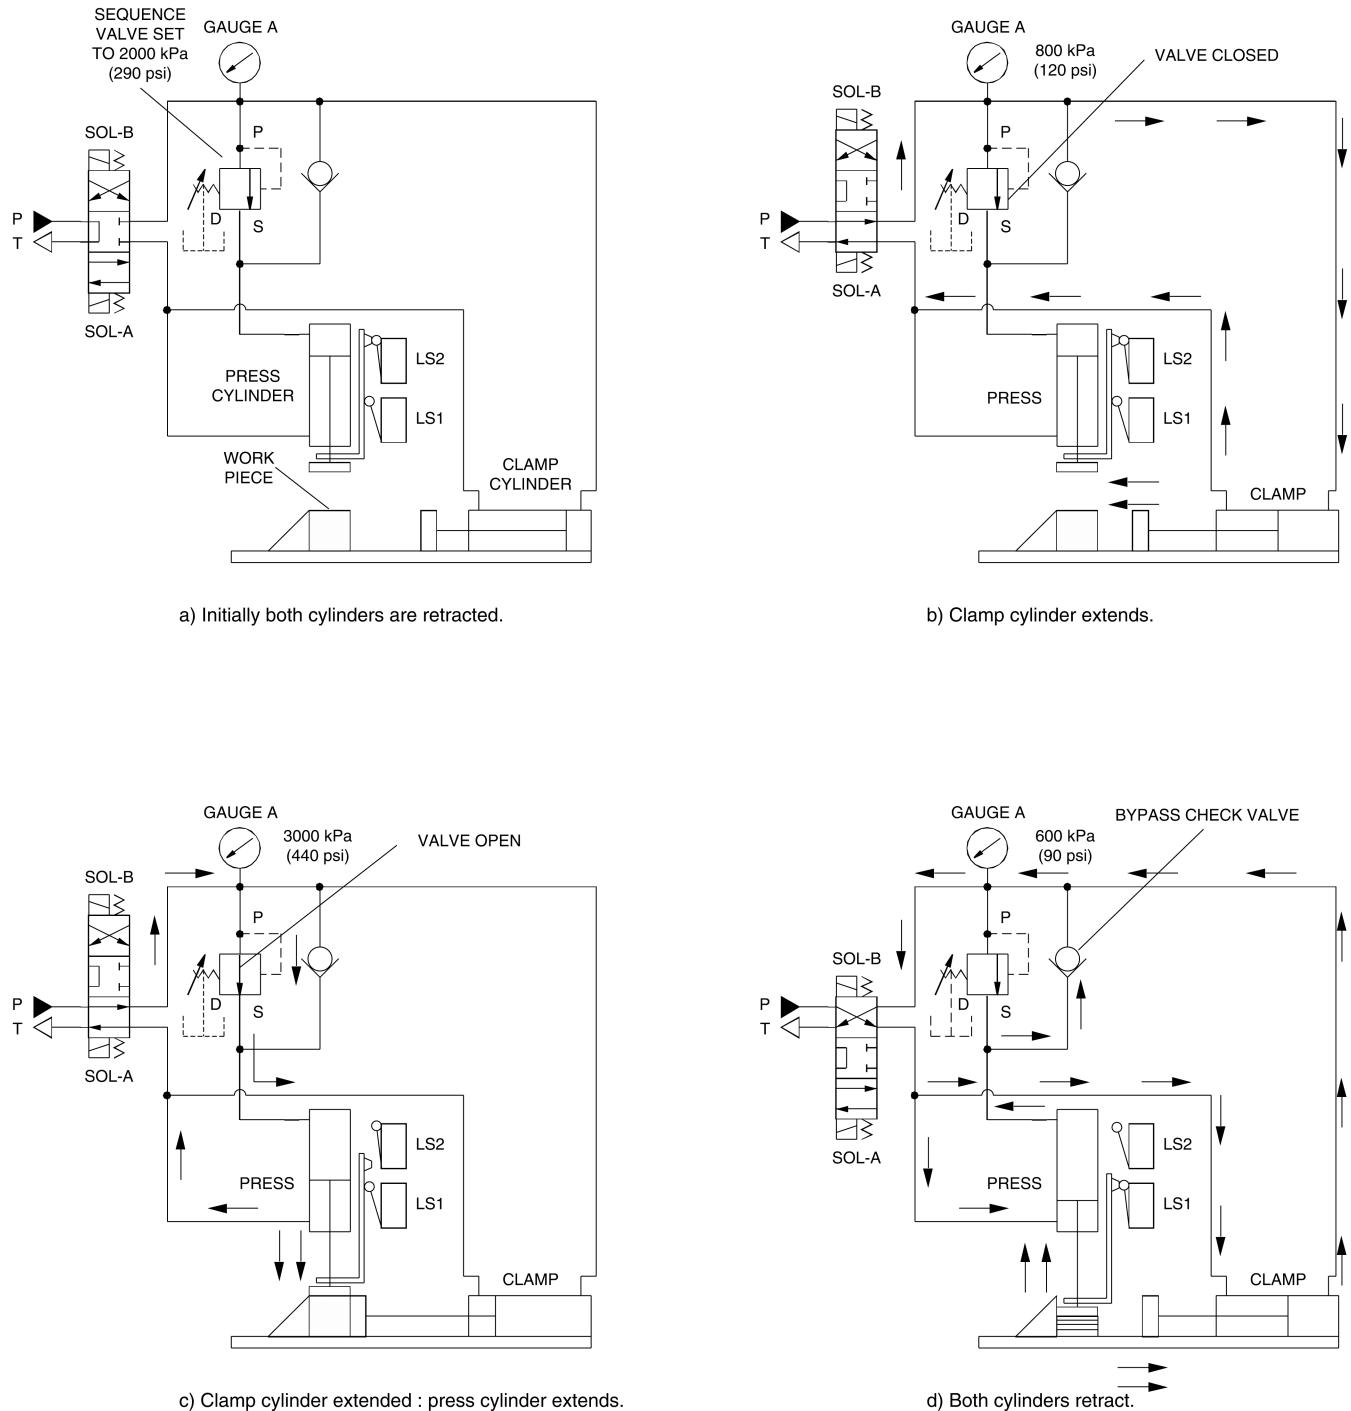

Figure 3-3. Clamp and press system sequenced by a hydraulic sequence valve.
As an example, Figure 3-3 shows a clamp and press system sequenced by a sequence valve. The clamp operation is performed by a small-bore cylinder to limit the clamping force and prevent distortion or damage to the workpiece. The press operation is performed by a large-bore cylinder to press the workpiece with full force. A sequence valve connected upstream will not open unless the system pressure reaches the valve pressure setting of 2000 kPa (290 psi). Therefore, the oil flow to the press cylinder is blocked until the workpiece is clamped with sufficient force.
- In the normal condition of the circuit, both cylinders are retracted, so the operator can load a workpiece into the machine, as Figure 3-3 a) shows. Solenoids A and B of the directional valve are deenergized, so the valve is in its center position.
- When the operator presses a START pushbutton, the directional valve is shifted to the straight-arrows condition, as illustrated in Figure 3-3 b). The clamp cylinder starts to extend. Since this cylinder extends under no load, it requires a pressure that is less than the 2000 kPa (290 psi) setting of the sequence valve. Therefore, the sequence valve stays closed and the flow is blocked to the press cylinder.
- Once the clamp cylinder is extended, the pumped oil becomes deadheaded and the system pressure rises quickly. When it reaches 2000 kPa (290 psi) upstream of the sequence valve, the valve opens and the press cylinder extends. When the cylinder contacts the workpiece, the system pressure rises to its maximum level (setting of the relief valve) to press the workpiece with full force. This is illustrated in Figure 3-3 c).
- Once the press cylinder is extended, it activates mechanical limit switch LS1. This causes the directional valve to shift to the crossed-arrows condition to retract the cylinders, as illustrated in Figure 3-3 d). The clamp cylinder completes its stroke first because it requires the lowest pressure to move. The press cylinder then completes its stroke, which activates mechanical limit switch LS2 and stops the cycle.
In the circuit of Figure 3-3, automatic reversal and stopping of the cylinders is achieved by using the electrical signals provided by mechanical limit switches to shift the directional valve when the cylinders become fully extended or retracted. Mechanical limit switches are used extensively on industrial hydraulic equipment. They are reliable, small in size, simple to use, and generally cheaper than the other types of switches.